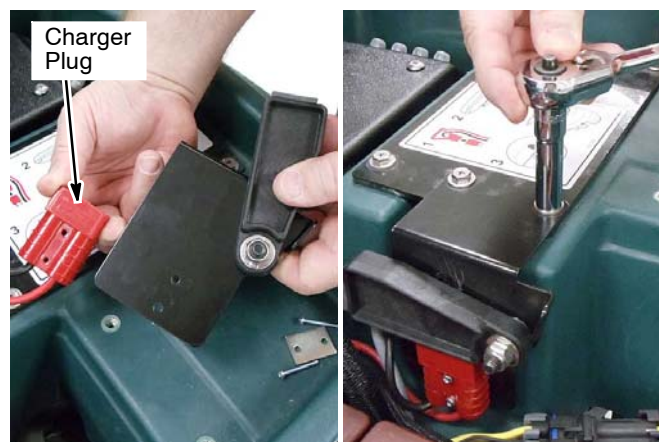

FIG. 32
18. Using existing hardware, connect new battery charger plug to mounting bracket (FIG. 32).